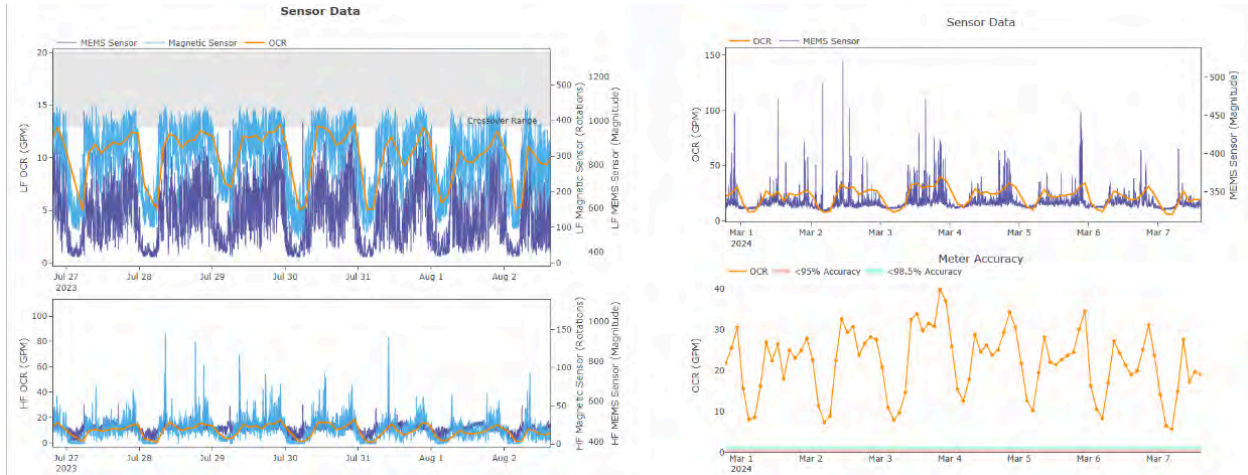

Figure 42 - Pre and post meter repair comparison
- This new meter is correctly sized for the flow received during the validation phase. The new meter is now recording up to 40 GPM of flow, compared to the previously recorded combined flow of 35 GPM (Figure 42).